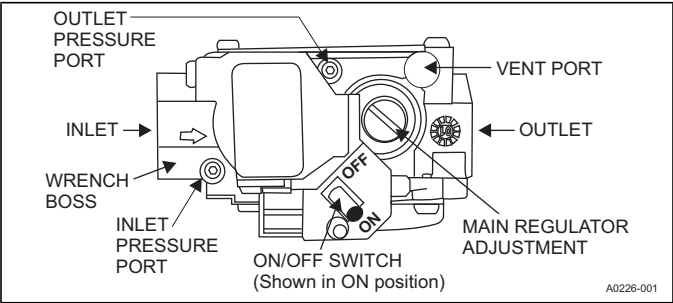

FIGURE 9: Gas Valve
Inlet and manifold gas pressure may be measured by connecting the "U" tube manometer to the gas valve with a piece of tubing. Follow the appropriate section in the instructions below. Refer to Figure 9 for the locations of the pressure ports on the gas valve.
Connect the positive side of the manometer to the IN P Tap on the gas valve. Do not connect any tubing to the negative side of the manometer, as it will reference atmospheric pressure. Refer to Figures 9 and 10 for connection details.
Connect the positive side of the manometer to the OUT P Tap on the gas valve. Do not connect any tubing to the negative side of the manometer, as it will reference atmospheric pressure. Refer to Figures 9 and 10 for connection details.
1. Refer to Figure 9 for location of pressure regulator adjustment cap and adjustment screws on main gas valve.